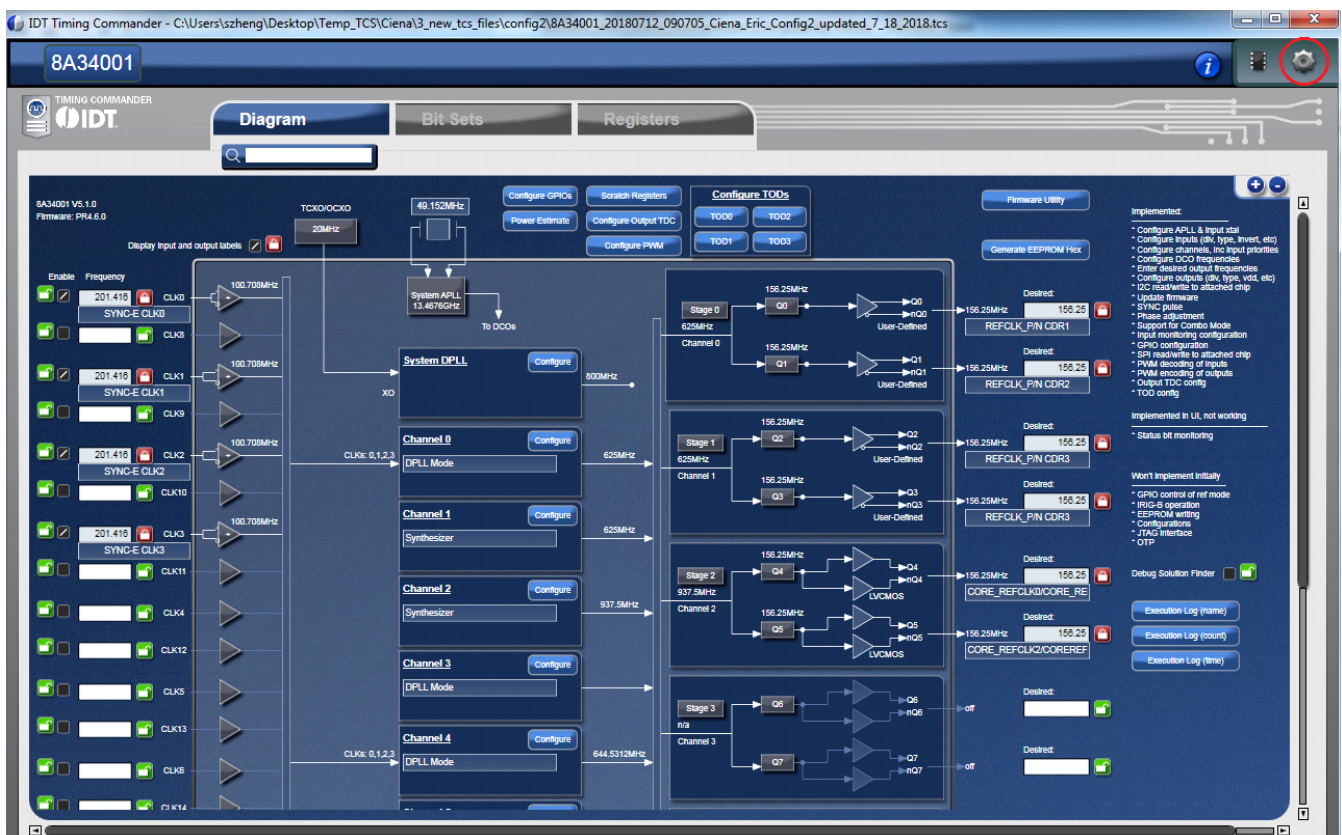
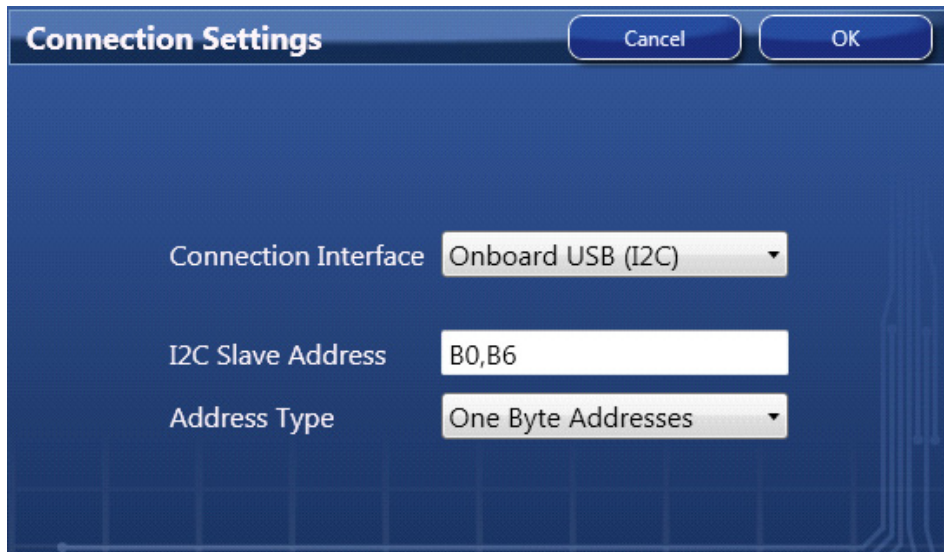

Figure 8. Timing Commander GUI with a Settings File Opened
Figure 9. Setting I2C for Connecting the Board with GUI
- The GUI window with the 8A34001 block diagram will open for configurations; or if “Open Settings File” is selected in Step 3 above, you will be prompted to browse and select an existing .tcs file and the personality file. When the configuration file is open, all configured values will be displayed as in Figure 8.
- In order to connect the board with Timing Commander (PC), click the button (red circle) at the up-right corner of the GUI to set up the communication protocols (see Figure 8). After I2C and one-byte addressing are selected, click OK to close the window (see Figure 9).